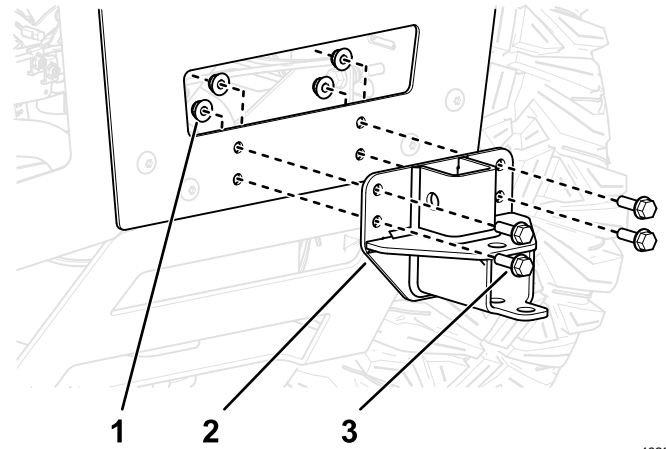

Figure 14
3. Install the bagger mount bracket to the machine as shown in Figure 14.